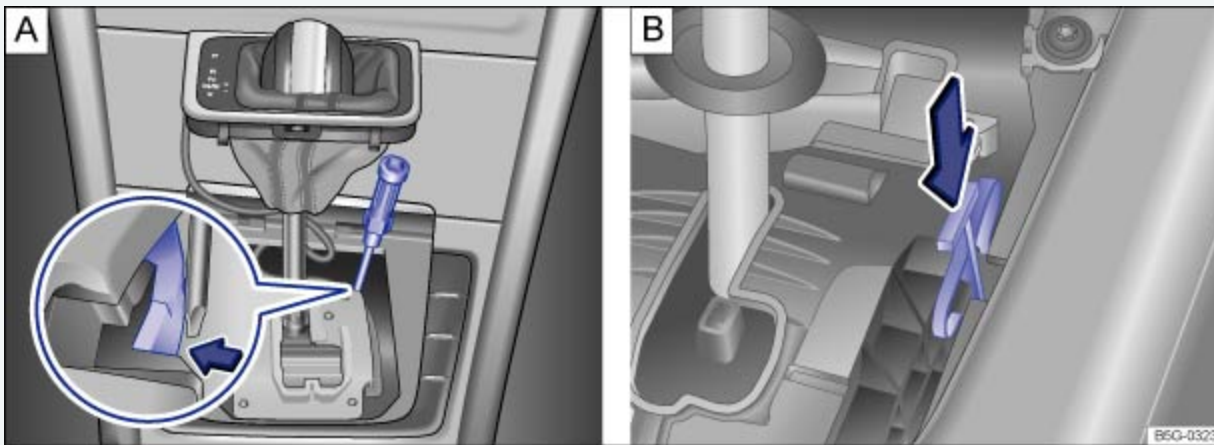

Fig. 215 Releasing the selector lever lock (versions and).
- With the screwdriver from the vehicle tool kit, carefully push the colored release lever ⇒ *Fig. 215*  in the direction of the arrow and hold it in this position.
- Press the release button in the selector lever handle and shift the selector lever to Neutral (N).
- Using the flat blade of the screwdriver from the vehicle tool kit, carefully push down on the middle of the colored release lever ⇒ *Fig. 215*  in the direction of the arrow and hold it in this position.